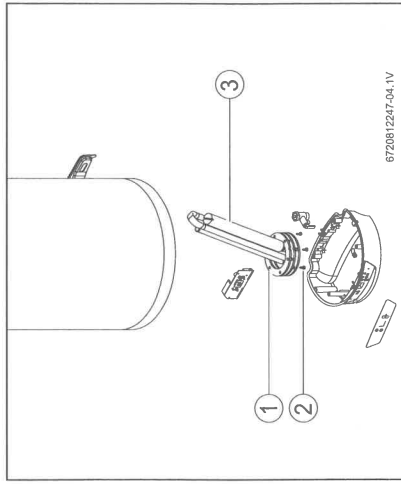

Fig. 13 Access and identifying internal components
- ▶ Unscrew the flange fastening nut (Fig. 13, [2]).
- ▶ Remove the flange from the inside of the appliance (Fig. 13, [1]).
- ▶ Verify the magnesium anode (Fig. 13, [3]) and replace it if necessary.